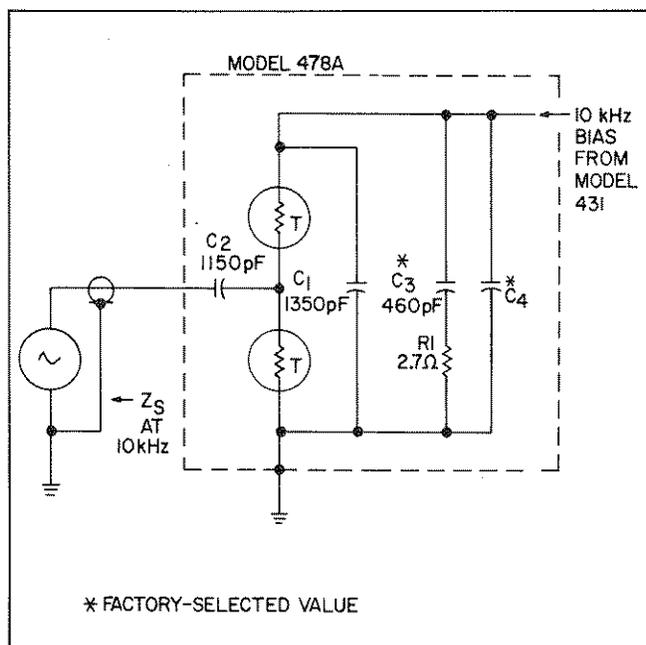

Figure 4. Source Impedance Shunting One RF Thermistor Mount
27. With the Model 478A mount connected to the RF system, the source impedance shunts one of the RF thermistors (see Figure 4); when the Model 478A mount is disconnected, the source impedance is removed. Unless source impedance is high, this variation in impedance affects the RF bridge 10-kHz feedback loop in the power meter, and the zero-level setting obtained with the source disconnected is no longer zero for the measurement. This error can be eliminated by terminating the mount in an impedance which approximately matches the generator impedance at 10 kHz; the termination should be connected while the mount is disconnected (see Paragraph 26) from the source. For example, if the impedance presented by the RF system to 10 kHz is low (1K ohm or less) terminate the thermistor mount in a 50-ohm resistor or a short. On the other hand, if the impedance of the RF system at 10 kHz is high (100K ohms or more) leave the thermistor mount unterminated during zero-set.